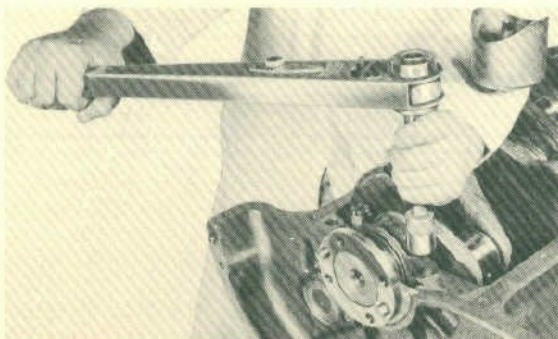

Fig. 7
Step 4—Tighten the nuts on the stud bolts holding the main bearing caps to a torque value of 75 to 80 foot pounds (Figure 7). Check crankshaft rotation for binding. Secure the nuts with safety wire.